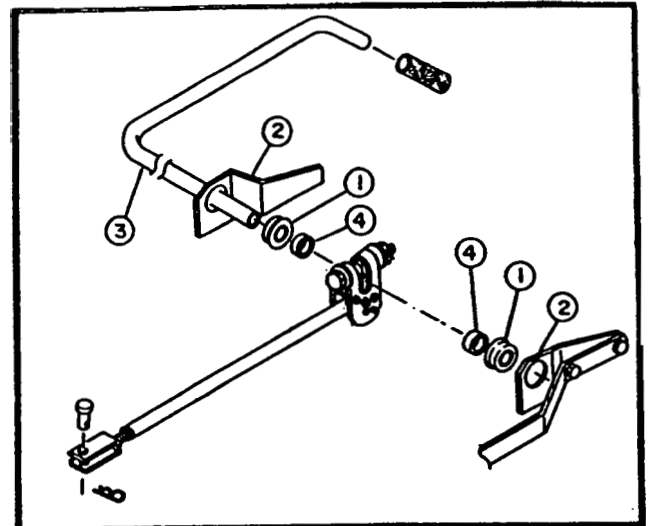

FIGURE 3
- e) Install a flange bearing (fig.3, item 1) into each lift support bracket (fig.3, item 2) from the inside.
- f) Insert the lift arm (fig.3, item 3) through the bearing in the right hand lift support bracket. Put a tube spacer (fig.3, item 4) on the arm, and then insert the arm through the lift lever (under the 5/8" bolt).
- k) If necessary, adjust the lift arm (fig.3, item 3) **so** that the handle section **is** parallel to the fender with approximately **1"** of clearance when it **is** pulled all the **way** back.